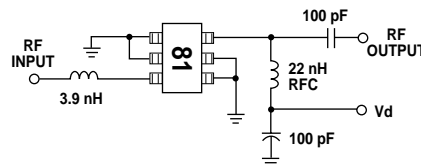
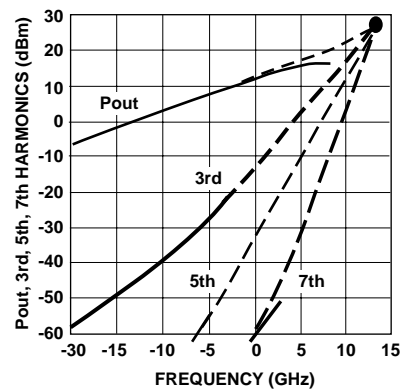

Figure 10. Test Circuit.
Figure 19. Intermodulation Products vs. Input Power. ( $V_d = 3.0V$ )
1. Guaranteed specifications are 100% tested in the circuit in Figure 10 in the Applications Information section.
The circuit shown in Figure 10 is used for 100% RF testing of Noise Figure and Gain. The 3.9 nH inductor at the input fix-tunes the circuit to 2 GHz. The only purpose of the RFC at the output is to apply DC bias to the device under test. Tests in this circuit are used to guarantee the  $NF_{test}$  and  $G_{test}$  parameters shown in the table of Electrical Specifications.
Like other active devices, the intermodulation products of the MGA-81563 increase as the device is driven further into nonlinear operation. The 3rd, 5th, and 7th order intermodulation products of the MGA-81563 are shown in Figure 19 along with the fundamental response. This data was measured in the test circuit in Figure 10.